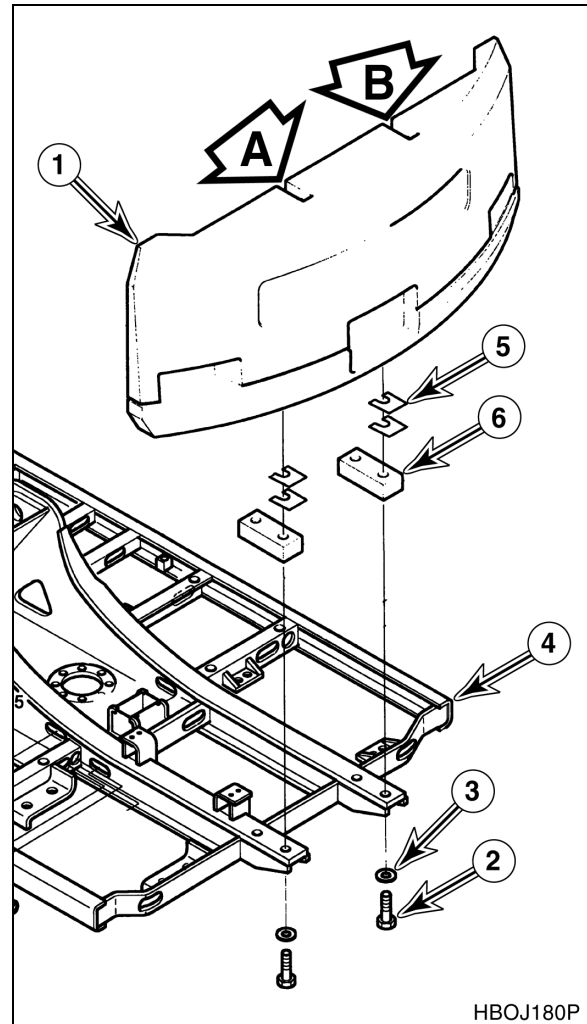

Figure 4
8. Using a suitable lifting device capable of handling 1,600 kg (3,527 lbs.), attach two lifting hooks to points (A and B, Figure 4). Partially support counterweight (1) before beginning to loosen four 27 mm bolts (2). Stop lifting with assist crane as soon as lifting slings are taut.
9. Remove four bolts (2, Figure 4) and washers (3) from counterweight (1).
10. When bolts (2, Figure 4) and washers (3) have been removed, lift counterweight (1) a very short distance above support frame (4) and stop. Check slings and make sure counterweight is being supported evenly. Once checked, continue to remove counterweight.
11. Remove shims (5) and plates (6) from frame (4).